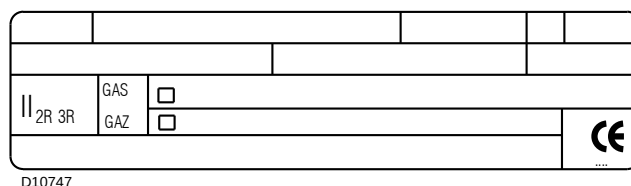

Fig. 3
- the model **A**) (Fig. 3) and type of burner **B**);